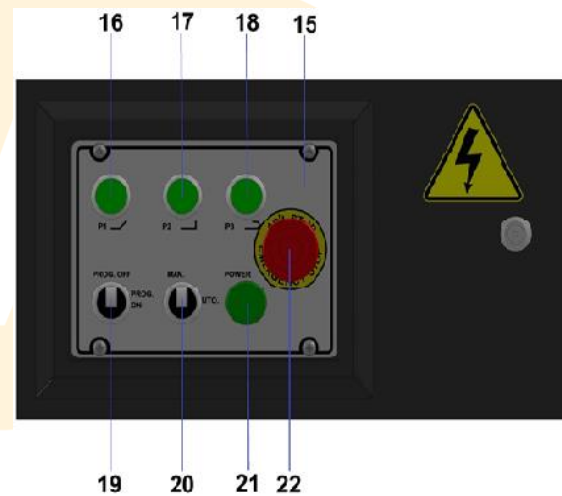

Figure 4: 380V Manual Machine Control Buttons
- Select the bending shape from the buttons on the control panel. (Figure:4 No:16,17,18)
- On stirrup bendings, switch the PROG. ON-OFF button to (Figure4: No:19) “ON” position and max. 9 different bending is adjusted at once and the bending can be done in the adjusted order.
- After the adjustment is finished, switch the MAN-AUTO button(Figure:4 No:20) to AUTO position and start to serial bending.
- In case of an emergency, machine can be stopped by pressing the ‘emergency stop button2 on the control panel. (Figure:4 No:22) When you start to bend machine will re-start from the latest adjusted programme.